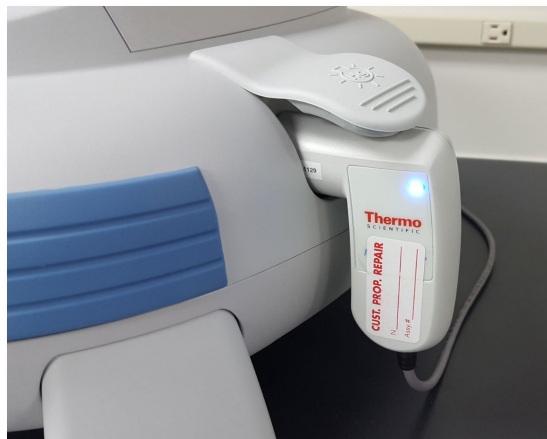

Figure 4: Mercury Lamp inserted into side cavity of the Evolution. Blue light indicates the lamp is correctly inserted.
3. Lift the mercury lamp access cover located on the right side of the Evolution and insert the Mercury lamp into the cavity. Press gently until it is secure. The lamp power light will illuminate, indicating that it is connected properly (see *Figure 4*).